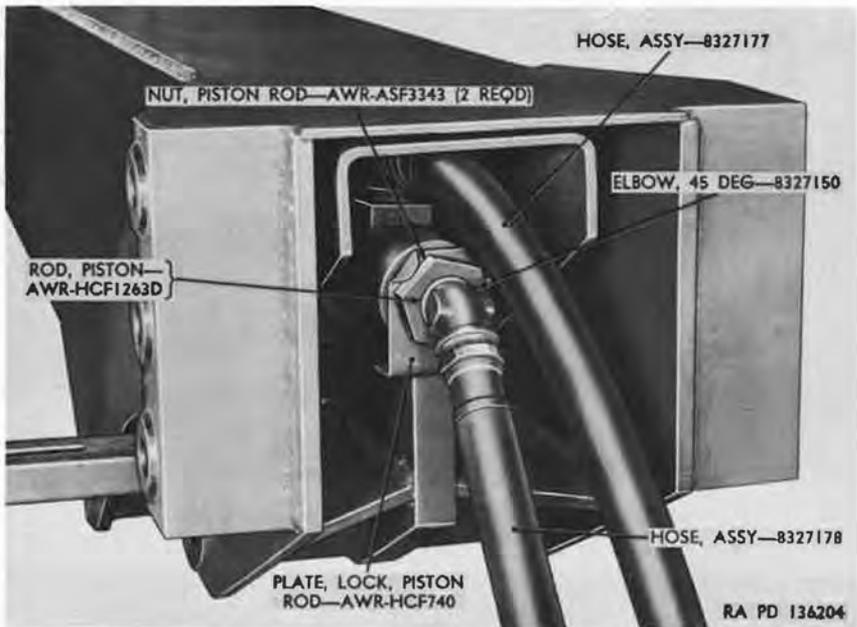

Figure 52. Disconnect points for boom removal.
- (1) Remove 45° elbow with hose assembly from end of piston rod. Bend lip on piston rod lock plate (fig. 52) from piston rod nut and remove both nuts and plate.